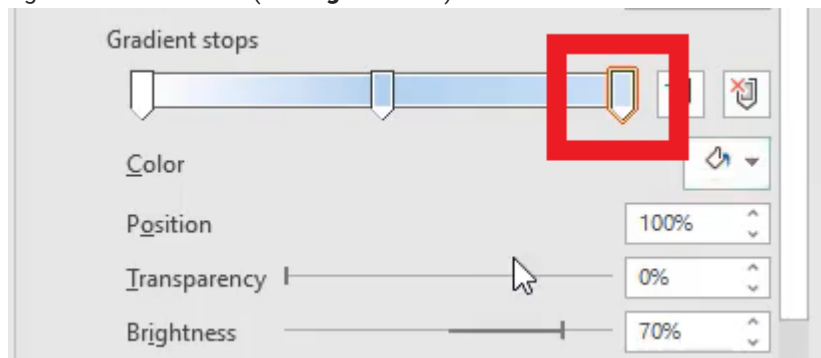

Figure 37.37
2. In the top stop, change the color to white. (See **Figure 37.37**)